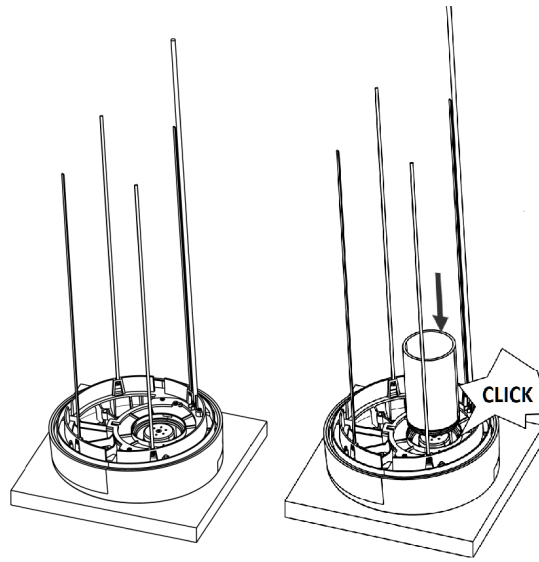

Figure 10 - Preparation of outside hood with Ø90 mm tube
1. The outward-facing side of the outside hood (1) is placed on a piece of cardboard from the packaging on top of a steady surface. The outside hood comes with pre-mounted strips.
2. Press the Ø90 tube (3) with the milled grooves against the inside of the hood so it clicks on. See Figure 10 below. Afterward, put the isolation down around the tube. It is important to push it all the way down toward the hood.